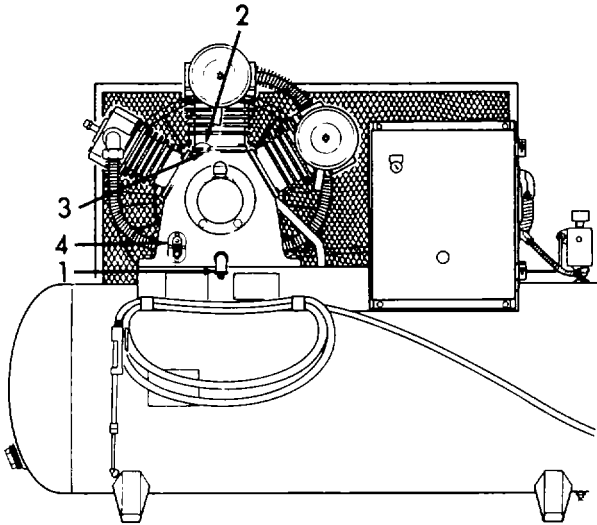

Figure 3-1. Oil Draining and Refilling the Crankcase.
- a. Refer to Figure 3-1. Place a suitable container under the air compressor oil drain plug (1).
- b. Remove the drain plug (1) and allow the oil to completely drain from the crankcase.
- c. Reinstall the drain plug (1). Discard the used oil.